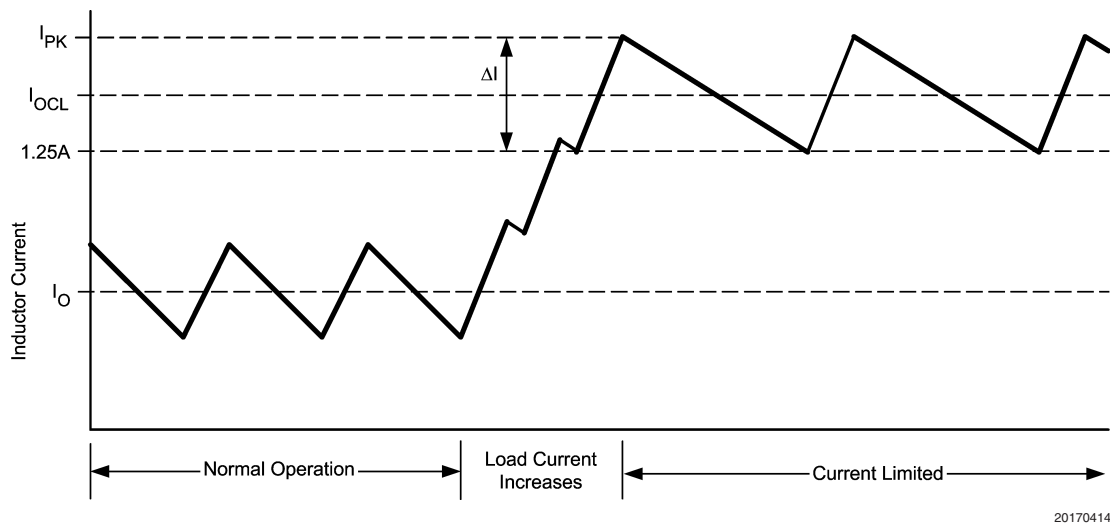

FIGURE 7. Inductor Current - Current Limit Operation
*Figure 7* illustrates the inductor current waveform. During normal operation the load current is  $I_O$ , the average of the ripple waveform. When the load resistance decreases the current ratchets up until the lower peak reaches 1.25A. During the Current Limited portion of *Figure 7*, the current ramps down to 1.25A during each off-time, initiating the next on-time (assuming the voltage at FB is  $<2.5V$ ). During each on-time the current ramps up an amount equal to:
The lesser of Equations 9 and 10 is then used in Equation 8. If  $I_{OR(MAX2)}$  is used, the maximum  $V_{IN}$  is used in Equation 8. The next larger value should then be used for L1. If  $I_{OR(MIN1)}$  is used, the minimum  $V_{IN}$  is used in Equation 8. The next smaller value should then be used for L1. L1 must be rated for the peak value of the current waveform ( $I_{PK}$  in Figure 7).
**D1:** The important parameters are reverse recovery time and forward voltage. The reverse recovery time determines how long the reverse current surge lasts each time the buck switch is turned on. The forward voltage drop is significant in the event the output is short-circuited as it is mainly this diode's voltage (plus the voltage across the current limit sense resistor) which forces the inductor current to decrease during the off-time. For this reason, a higher voltage is better, although that affects efficiency. A reverse recovery time of  $\approx 30$  ns, and a forward voltage drop of  $\approx 0.75\text{V}$  are preferred. The reverse leakage specification is important as that can significantly affect efficiency. D1's reverse voltage rating must be at least as great as the maximum  $V_{IN}$ , and its current rating must equal or exceed  $I_{PK}$  Figure 7.